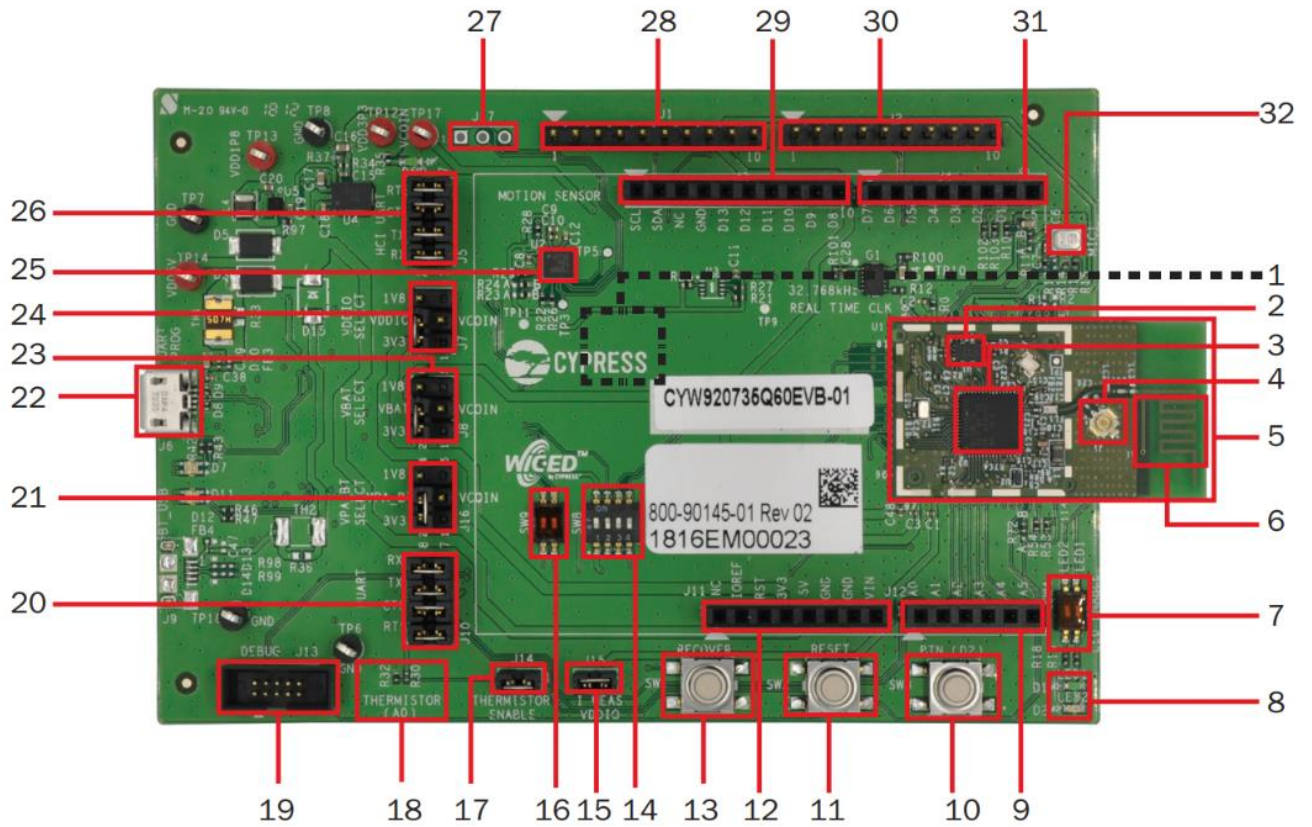
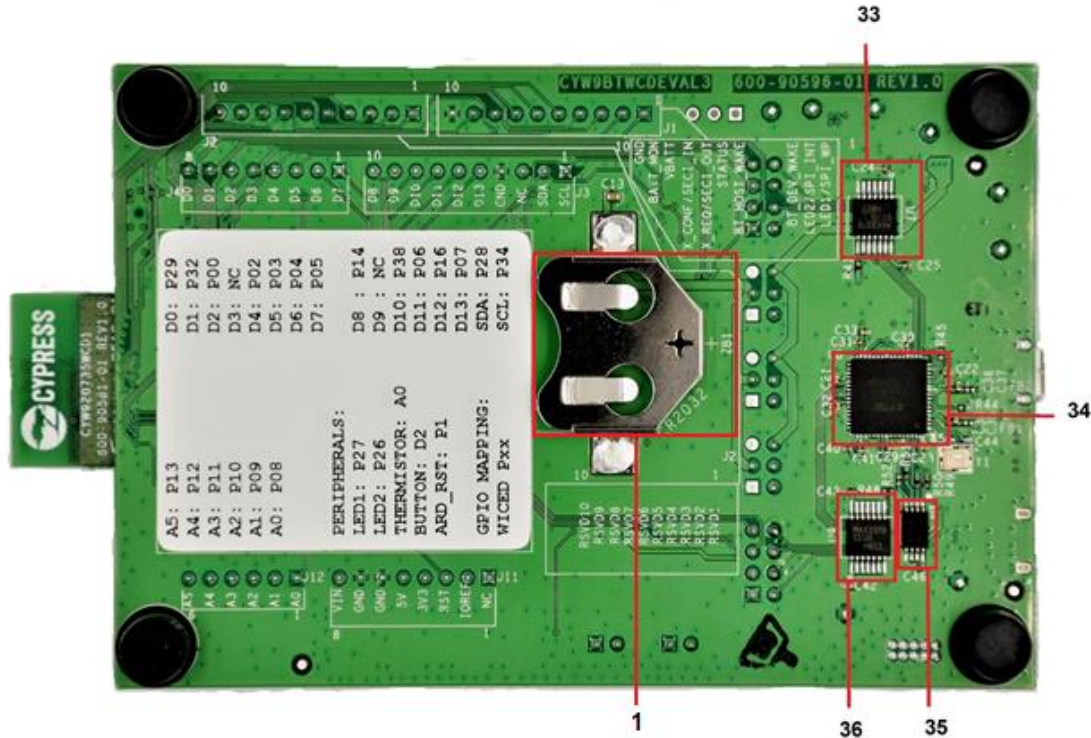

Figure 3-3. CYW920735Q60EVB-01 Evaluation Board
Figure 3-4. CYW920735Q60EVB-01 Evaluation Board (Back View)
- The value of the Hello Input characteristic is incremented each time button **SW3** (see Figure 3-3) on the EVB is pressed. The value (read-only) may be retrieved from the Hello Client application using one of the following methods:
- The Hello Configuration read-write characteristic is used to configure the number of times an LED on the evaluation board blinks (see Figure 3-3) when the value is changed and whenever button **SW3** is pressed.
2. Press button **SW3** on the WICED board (see Figure 3-3). The Hello X message is displayed in the **Value** field. Each time the button is pressed, the message number increments.
2. Press button **SW3** on the WICED board (see Figure 3-3). The LED on the board again blinks five times.
Figure 3-3 and Figure 3-4 show the markup of the CYW920735Q60EVB-01 board. See the list below for a description of the numbered items.